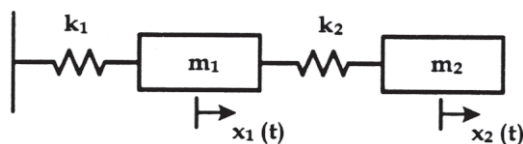

Fig. 4
- b)** Find the natural frequencies of the system shown in Figure. 4 with $m_1 = m$, $m_2 = 2m$, $k_1 = k$, and $k_2 = 2k$. Determine the response of the system when $k = 1000 \text{N/m}$, $m = 20 \text{kg}$, and the initial values of the displacements of the masses m_1 and m_2 are 1 and -1, respectively. [7]